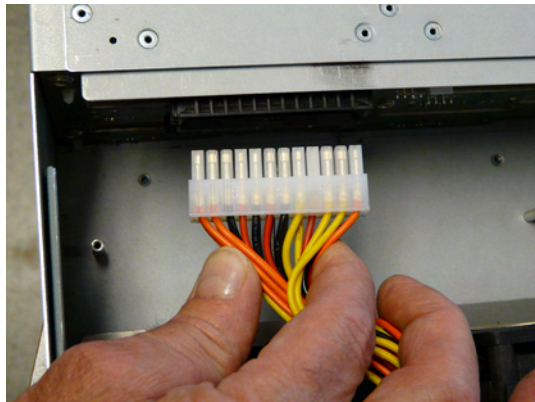

Figure 46. Removing the Main Power Connector from the Backplane
5. Remove the main power connector from the backplane as shown in Figure 46.